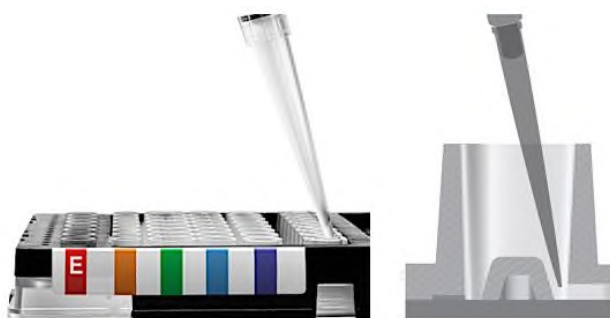

Figure 10. Sample recovery technique
3. Set a 200 μL pipette to 200 μL . While using the thumb/forefinger to reinforce the seal on the well in Column 5, aspirate slowly from the bottom right side of the sample well of the non-initiated sample where the well and channel meet (see **Figure 10**) and transfer to a new microtube.